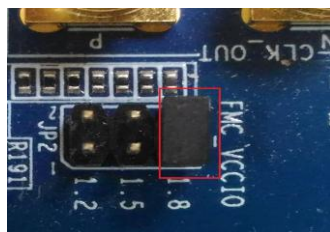

Figure 5-17(5-17) Adjust FMC VADJ to 1.8V (default) by short JP2(1.8)
- Make sure the FMC's VADJ is set to 1.8V by short JP2(1.8) as shown in Figure 5-17.